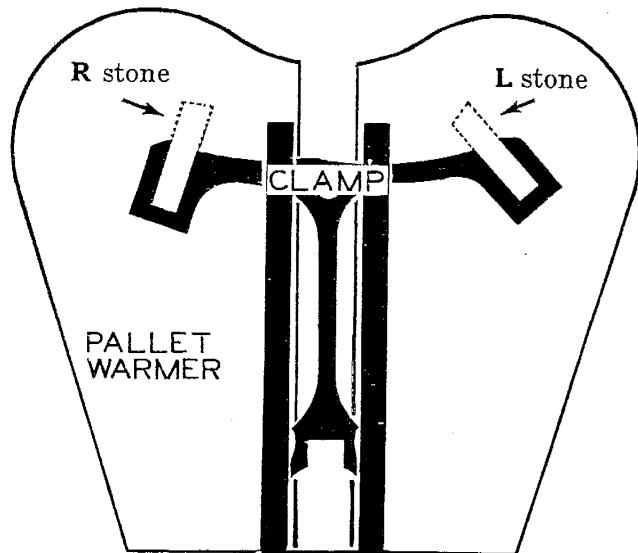
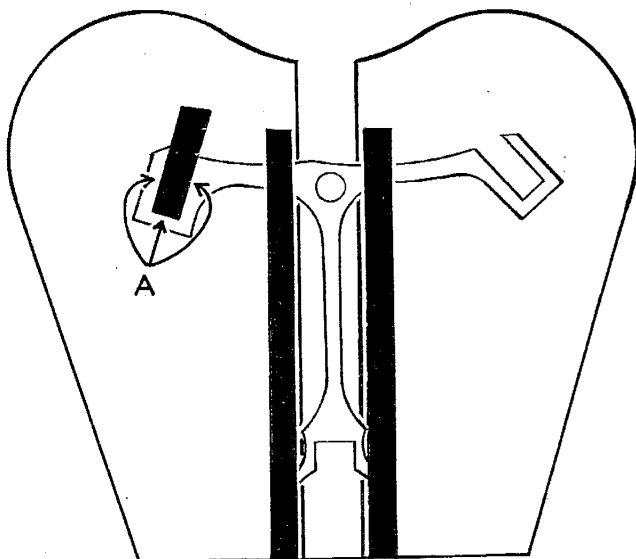
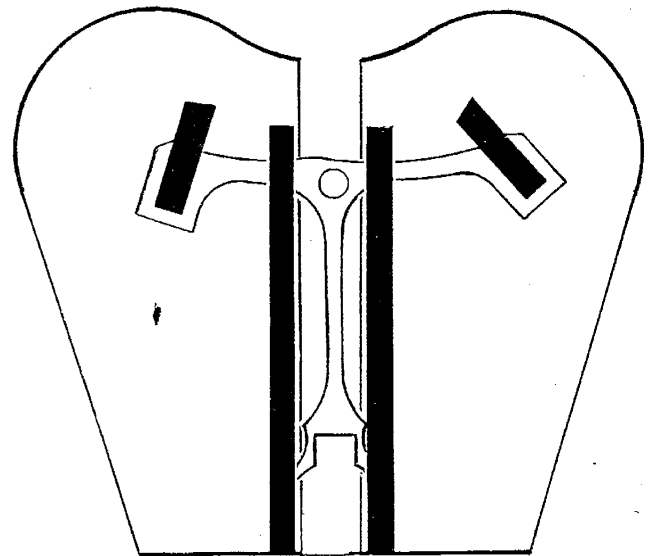

Fig. 26-5
Fig. 26-6
Fig. 26-7
3. Remove pallet stones. To remove them, place pallet fork on pallet warmer as in Figure 26-5. Heat one side of the pallet warmer at a time until cement is softened. Then, with a piece of pegwood sharpened to a blunt point, push out pallet stone from the back as shown by center arrow, Figure 26-6.
In setting pallet stones, be very careful as the stones are easily chipped or lost. Do not attempt to pick up a pallet stone except by the sides and then toward the back of the stone so that you will not injure the face or locking corner of the pallet stone. Figure 26-5 shows a diagram of the pallet fork clamped upside down on a pallet warmer. The dotted lines illustrate the correct position of the pallet stones with regard to the angles on the lifting faces. The pallet stone with the greater lifting angle is the L stone and the one with the lesser angle is the R stone.
Start with the R stone. After placing stone in position, push it to the bottom of the slot, figure 26-6. Use pegwood when moving a pallet stone. If the watch is one of excellent manufacture and has had careful handling, it is very possible that when the stone is pushed into the back of the slot, the amount of lock will be correct. Do not take this for granted, however. Warm slowly with alcohol lamp, heating one stone at a time. The pallet warmer is made so that one stone can be heated without danger of heating the other. Use shellac which has previously been drawn threadlike (Lesson 13, figure 13-21) and place on both sides and back of stone where it joins the pallet fork, arrows A, figure 26-6. Let cool before attempting to remove pallet from pallet warmer and remove any excess cement with the tool in figure 13-19, Lesson 13. Clean the lifting face and sides of the pallet stone with pithwood wet with alcohol. Now set L stone in place exactly the same as the R stone and as far back in the slot as possible, figure 26-7.